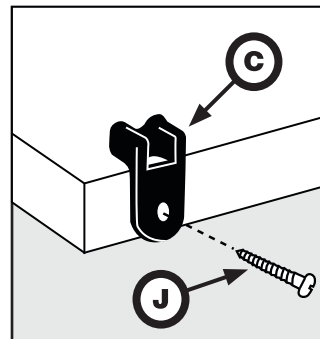

Figure 2
- 5** Fasten front wire connectors to front edge of board as shown in **Figure 2** using 3/4" screws (**J**). Fasten screws half way. Do not fully tighten.